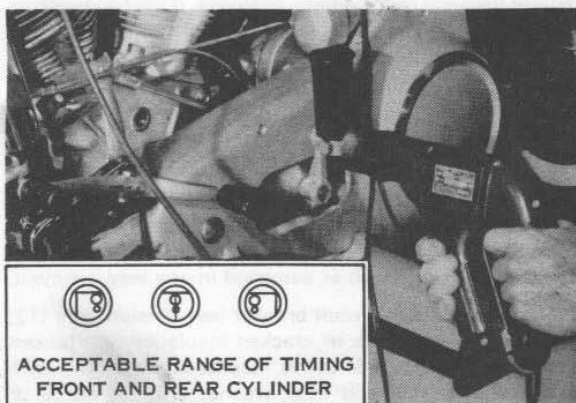

Figure 5-20. Checking Timing with Strobe Light
With engine running cam will automatically advance above idle speed. To check advanced spark timing, operate engine at 2000 rpm using Strobe light timing light to view advanced timing mark (see Figure 5-20). Timing light leads should be connected to front spark plug, ground, and positive red wire to battery terminal. A clear plastic Timing Hole Plug, Part No. 96295-65 is available for screwing into the crankcase hole for viewing the flywheel timing mark to prevent oil spray while the engine is running. Adjustment in timing is made with the engine running by loosening circuit breaker stem clamp slightly and rotate head into correct position as described previously.
#### CHECKING TIMING WITH STROBE TIMING LIGHT (Figure 5-20)
Rear cylinder advance timing mark is a double dot which should appear on or near the front cylinder advance timing mark while viewing with timing light. See Figure 5-20.
With flywheel ignition timing mark in center of timing hole in crankcase, observe how close timing marks on cam lobe lines up with breaker lever fiber. If fiber is not close to cam lobe timing mark, lift circuit breaker assembly and turn shaft gear in correct direction so engagement with driving gear is changed one tooth and reinstall circuit breaker in gearcase to get approximately close alignment of fiber and cam mark. Reinstall stem clamp (29, Figure 5-20) and tighten clamp bolts (30) being sure cam mark and fiber are still in alignment.